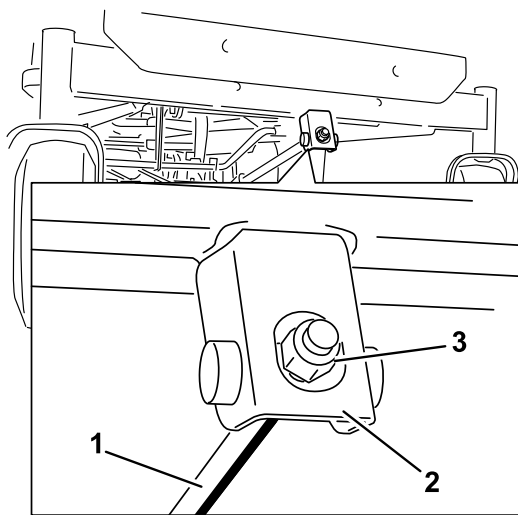

Figure 60
6. To adjust the front-to-rear blade slope, rotate the adjustment nut in the front of the mower (Figure 60).